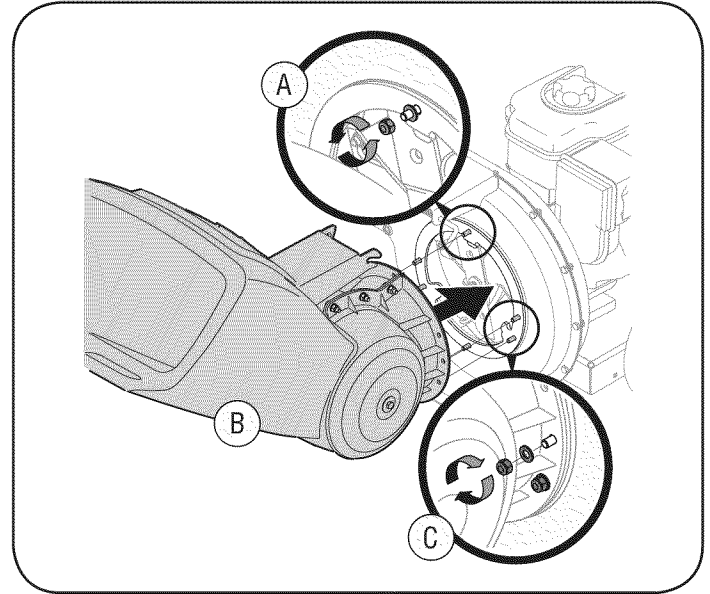

Figure 1
1. A. Remove six hex nuts and washers from the weld studs on the impeller housing. Do not remove support plate. See Figure 1.